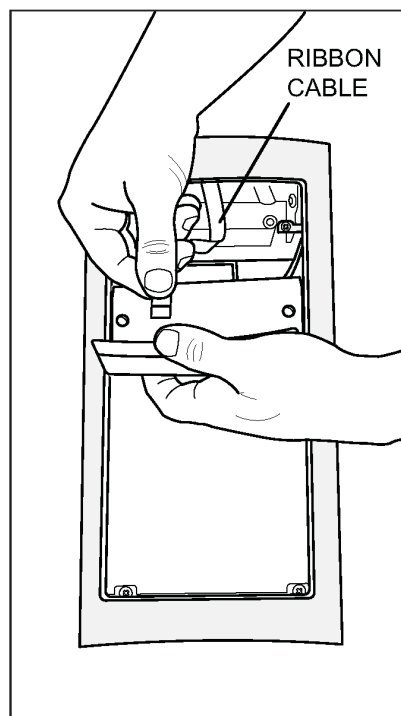

Figure 2-20. Dispenser Control Panel Removal, Disconnect Ribbon Cable
2. Pull the dispenser control panel down and disconnect the ribbon cable (See Figure 2-20).